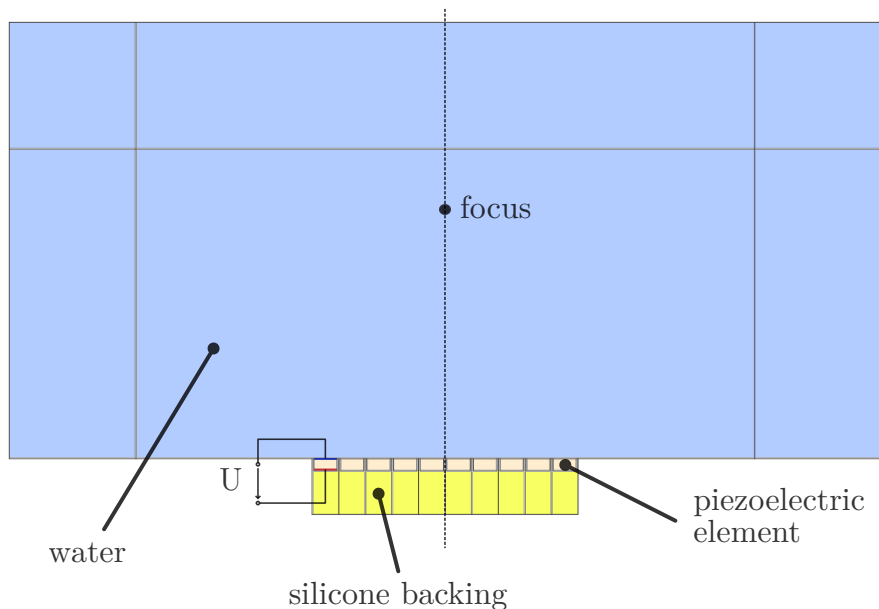

Figure 1: Setup of the piezoelectric phased array transducer
A typical ultrasonic probe for medical imaging is shown in Figure 1. It is a transducer array consisting of N piezoelectric elements made of PZT-5H that can be excited individually with a voltage between their top and bottom electrodes. By setting appropriate phase delays between the elements, both steering and focusing of the emitted or received beam can be achieved. The active elements are embedded in a highly attenuating silicone backing (not silicon!). The specimen that is to be insonified is represented by the semi-infinite water domain on top of the ultrasonic transducer. Note that water exhibits very similar properties to common biological tissue. The distance between two adjacent elements is $w_{\text{pitch}} = 0.305$ mm. The width of the elements is $w_{\text{elem}} = 0.27$ mm, while their thickness h_{elem} needs to be chosen according to the specification below.
- 1.2. Model the geometry as depicted in Fig. 1. Thereby, keep all parameters variable. Use the *Transformations*→*Array* feature of Comsol to also keep the number N of piezoelectric elements variable. When specifying the excitation later on, it might be easier to use an odd number of elements N . For the project you can restrict to odd N (in contrast to Fig. 1, which uses an even value N).